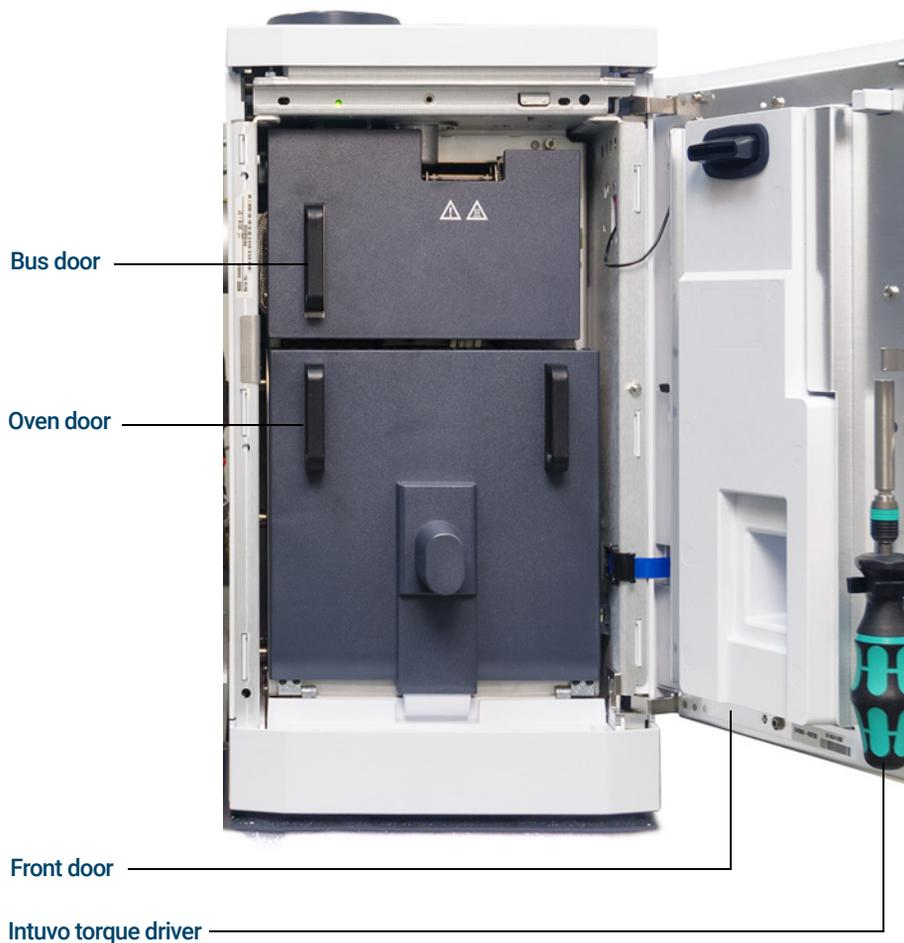

Figure 9. 9000 GC front door, bus door, oven door, and Intuvo torque driver
- 4 Open the GC front door. (See **Figure 9** on page 58.)